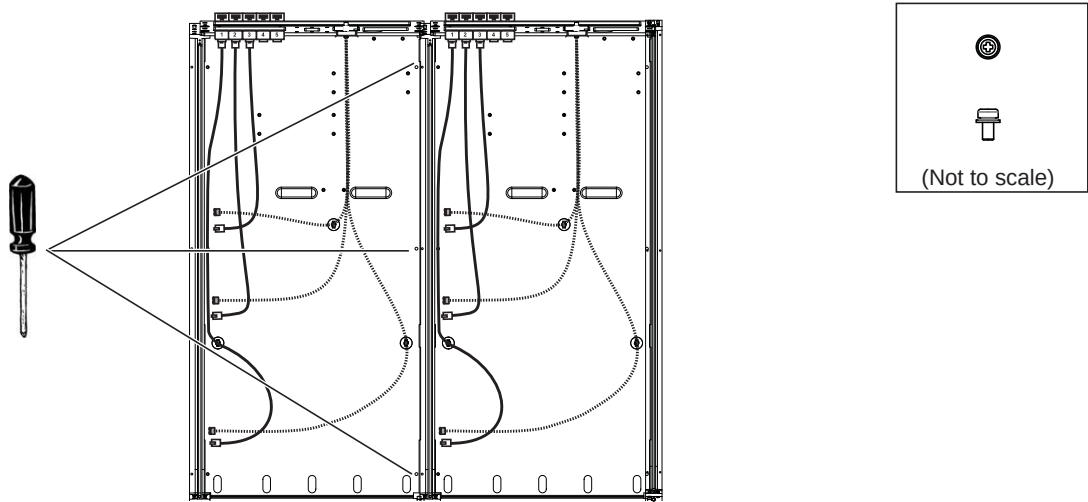

Figure 18. Securing the Chassis Bottom Plate of the first chassis to the Side Wall of the second chassis
- 8 Attach the right edge of the second chassis Bottom Plate to the left edge of the Side Wall of the first chassis using three #1 Phillips screws as shown in Figure 18. Do *not* tighten the screws fully.